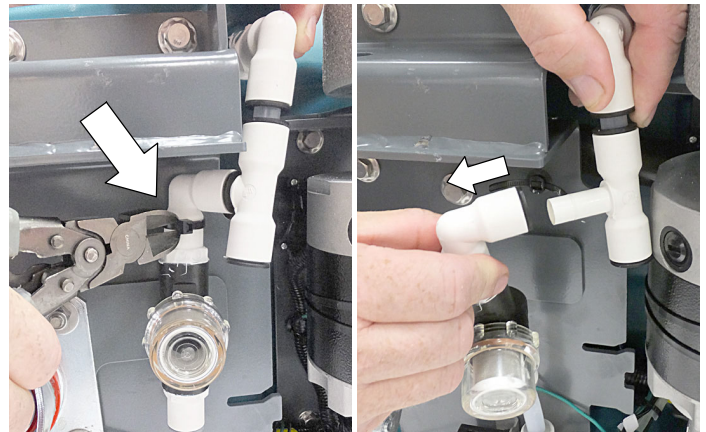

Fig. 21
- Cut the wire-tie and disconnect the elbow fitting from T-fitting as shown (Figure 21).